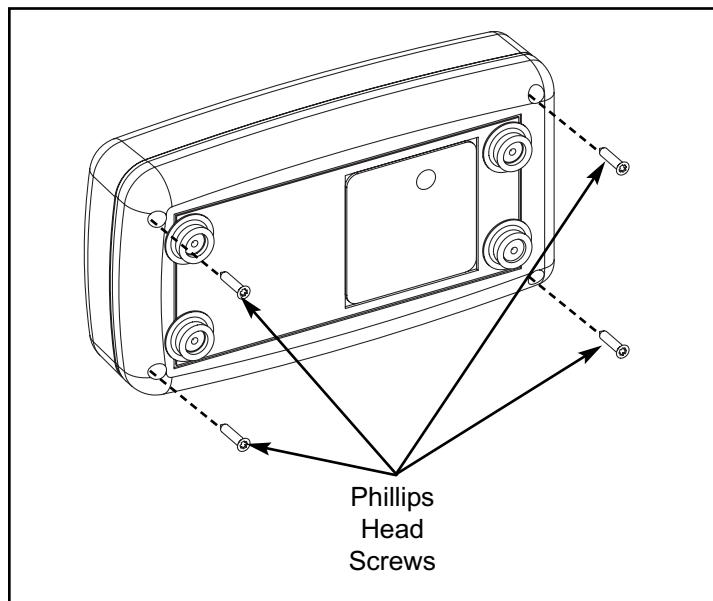

Figure 1
1. Using a Phillips head screwdriver remove the four Phillips head screws from the back cover. See Figure 1.